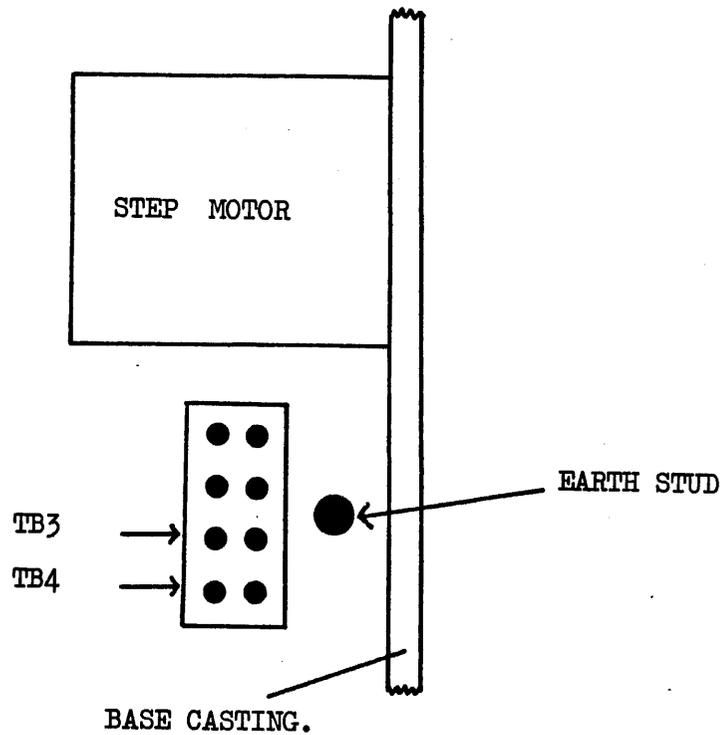

Figure 1
3. Install the AC Power Cable (1881 1547) as follows (Refer to Figure 1).